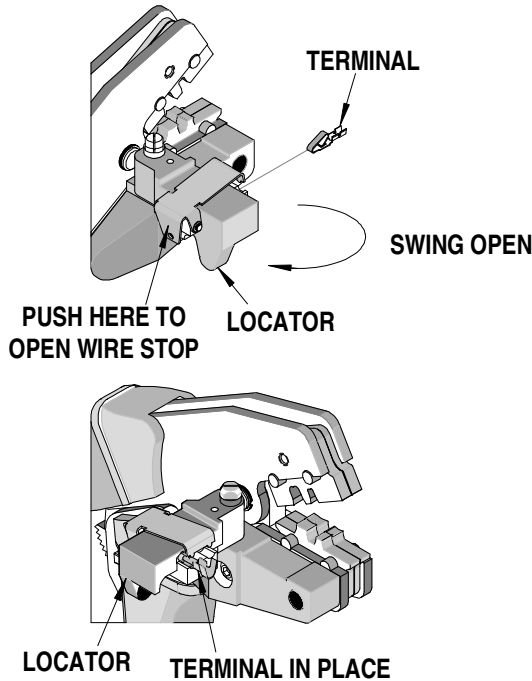

Figure 2
- Swing the terminal locator away from the crimp tool shown in Figure 2. Some terminals with large insulation grips may interfere with the crimp tooling when swinging the locator into position. The terminal must then be loaded into the locator in the closed/crimp position.
- Press down on the wire stop on the locator as shown in Figure 2. Insert the proper terminal into the proper nest opening. Make sure when choosing the nest opening, it will correspond with the A or B profile on the hand tool.